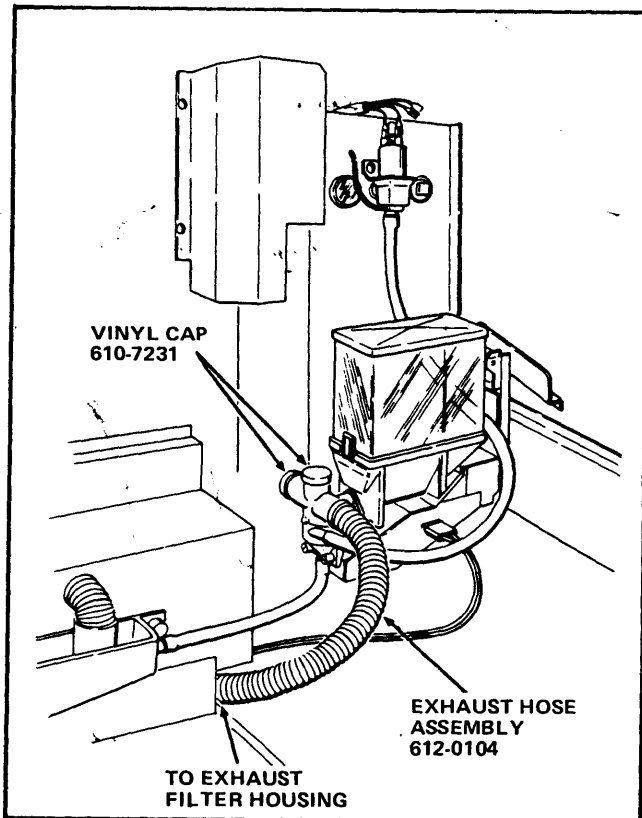

FIGURE 7. 610 WITHOUT TEA
17. a. On 610 and 611 Merchandisers not equipped with tea, removed the cap from the Exhaust Filter Housing and connect the Exhaust Hose Assembly, Part Number 612-0104, included in the Kit, to the Exhaust Filter Housing and connect the other end to the Mixing Bowl Vent. See Figure 7 for 610 Merchandisers and Figure 8 for 611 Merchandisers.
- b. Fit the two Vinyl Caps, Part Number 610-7231, included in the Kit, over the opening in the Mixing Bowl Vent. See Figure 7 or 8.